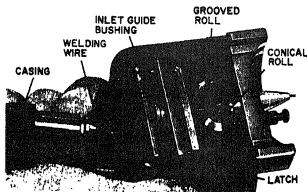

Figure 13. Latching Casing to Drive Roll Housing
e. Turn drive roll housing of Gun upside down. Insert wire protruding from casing into drive roll housing hole, through inlet bushing, and up to conical and grooved rolls (Fig. 13).